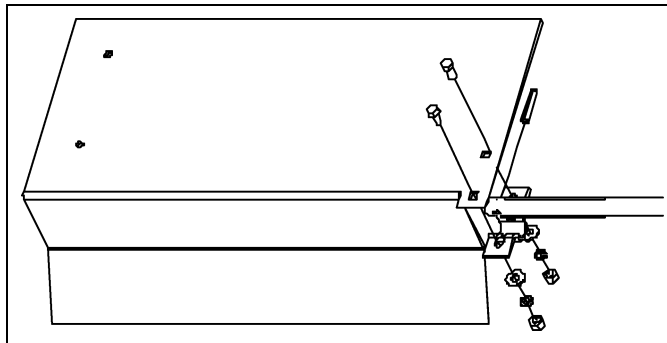

Figure 3N 10" Center Well Gate
4. Fasten clamp to bottom side of control gate by using two (2) 5/16" x 1-3/4" long (grade 5) carriage bolt, flat washers, lock washers and nuts. Install nuts so they secure the 5/16" x 1-3/4" long roll pin in place. (*See Figure 3N.*)